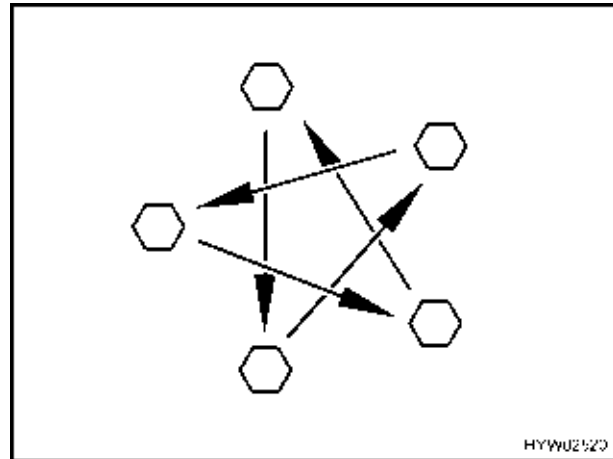

Fig. 175 Tighten the wheel nuts or wheel bolts cross-wise
- Check regularly that the wheel nuts or wheel bolts are firmly seated. Re-tighten the wheel nuts or wheel bolts of a changed wheel cross-wise after 50 km (30 miles) (Fig. 175). For tightening torque see section Tightening Torque.
- ▷ Tighten the wheel nuts or wheel bolts cross-wise (Fig. 175). For tightening torque see section Tightening Torque.